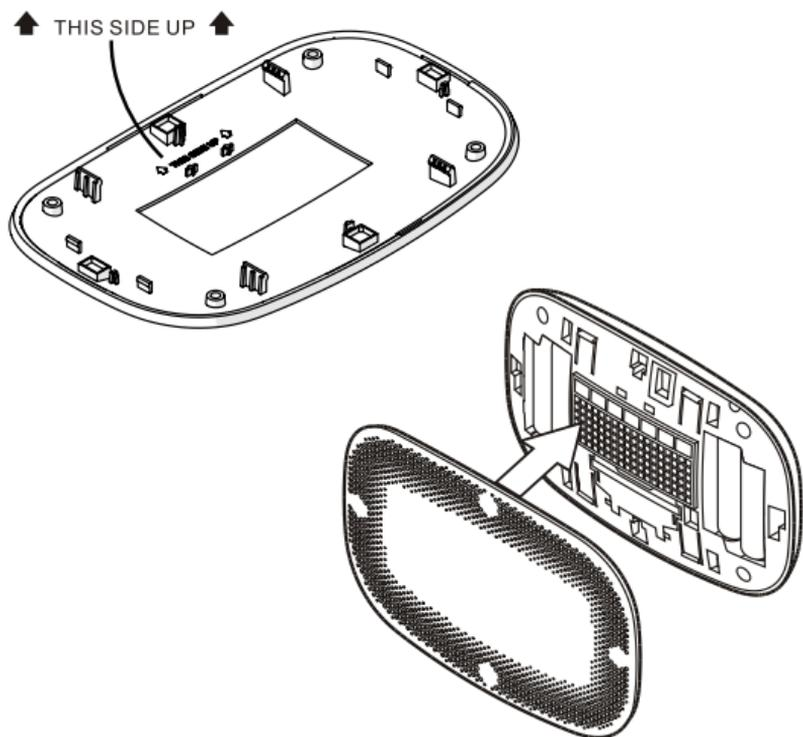

Figure 9. Install the Front Housing
- Align the front housing of the thermostat with the back housing and push until the housing sections are locked together (Figure 9).refer to the mark of "THIS SIDE UP" on the back of the cover plate to ensure correct position.